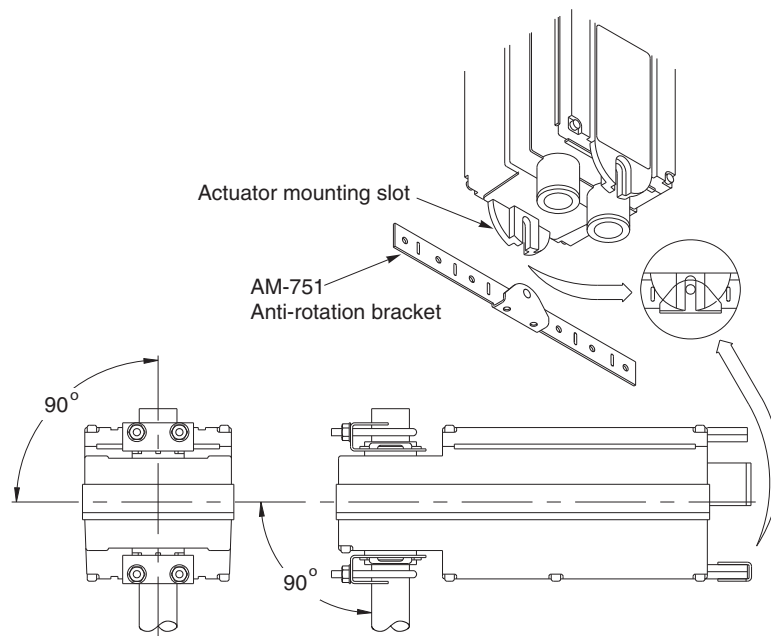

Figure-3 Mounting Anti-rotation Bracket to Actuator.
5. Align the actuator at 90° (perpendicular) to the damper shaft. See Figure-3.